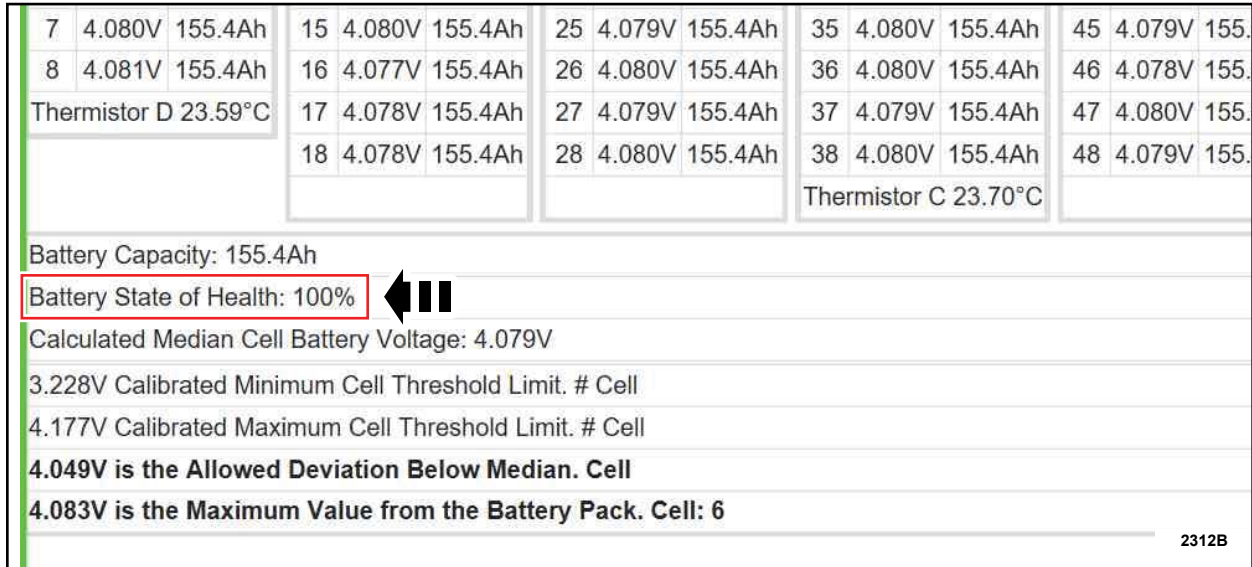

FIGURE 3
4. On the same screen where the FDRS Generated Target Voltage Code is found, locate and record the battery healthy percentage shown on the screen. See Figure 3.